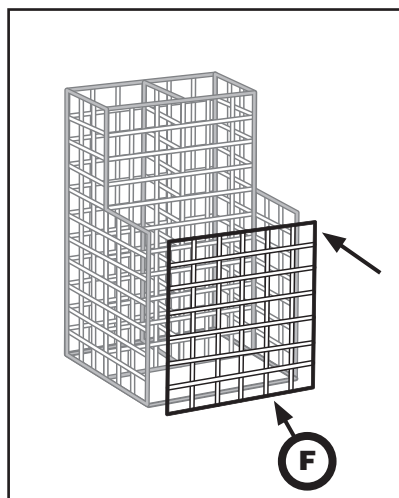

Figure 4
- 7** Attach face grid (**F**) to base grid and side grids as in *Figure 4*.